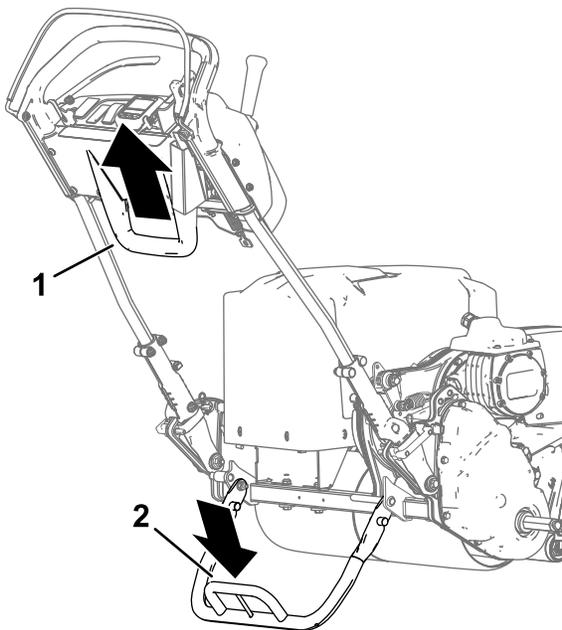

Figure 21
- To use the kickstand to install the transport wheels, lower the kickstand to the ground and step down on the loop while pulling up and back on the lower-center handle (Figure 21).